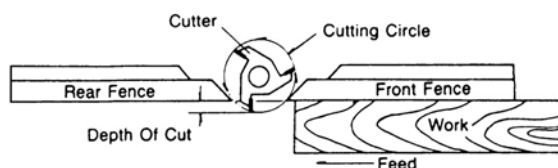

Figure 8
1. For most work, where a portion of the edge of the work is not touched by the cutter, both the front and rear fences are in a straight line, as shown in Figure 8.